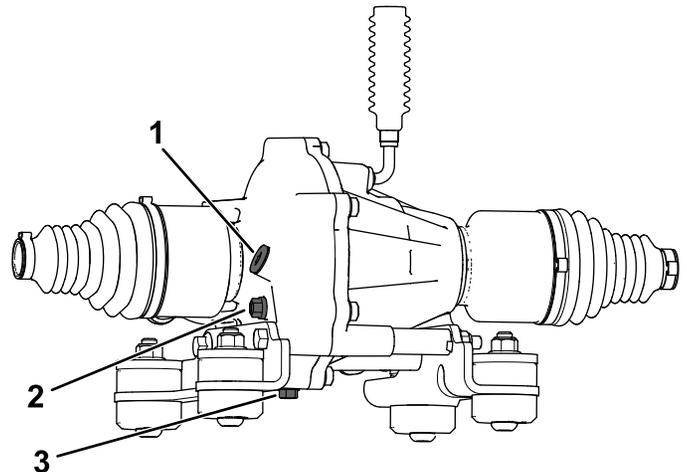

Figure 53
4. Remove the check plug on the front differential (Figure 53).
5. If the oil level is low, you may add the specified oil through the check plug opening (Figure 53).
4. Align a drain pan under the drain plug (Figure 53).
5. Remove the fill plug (Figure 53).
6. Remove the drain plug and allow the fluid to drain completely (Figure 53).